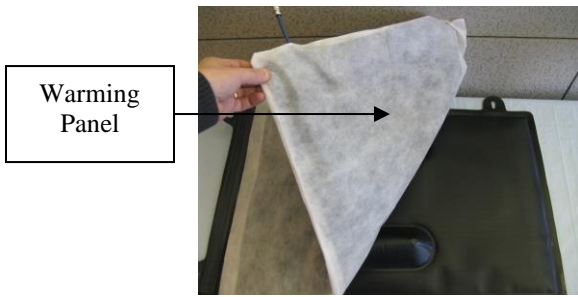

Figure 3
- 4. Place a thin patient barrier (thin sheet, pillow case or disposable cover (S220) over the entire warming panel (see fig. 3) of the Warming Mattress. Lower panel back down on the base panel.